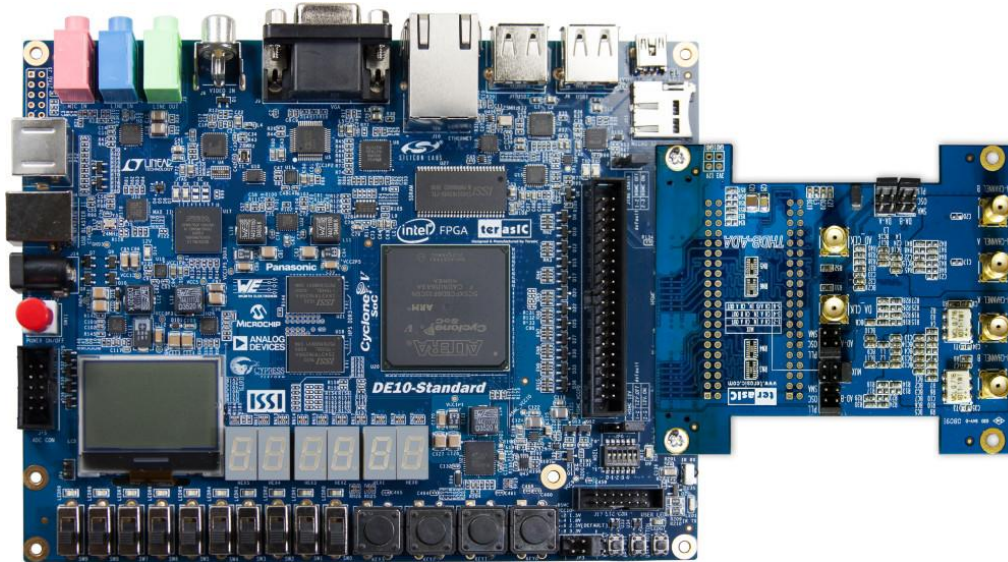

Figure 1 ADA Demo
This document illustrates how to setup the ADA demo on the DE10-Standard and the THDB-ADA as shown in **Figure 1**. The basic design content is also included. In this demonstration, please refer to the DE10-Standard user manual. For details about the THDB-ADA, please refer to the user manual of High-Speed A/D and D/A Development kit.
7. Open stp1.stp from <path>\Demonstrations\DE10_Standard_ADA, as shown in **Figure 1**.
3. Click **ADC_DB** and right click to select "**Create SignalTap II List File**" to generate the file stp1_auto_signaltap_0.txt in the project directory. As shown in the **Figure 1**.
3. Type `nstp_plot('stp1_auto_signaltap_0.txt')` at the MATLAB command prompt. The MATLAB will display normalized FFT plots of **DAC_B** input and **ADC_B** output similar to **Figure 1** and **Figure 1**, respective